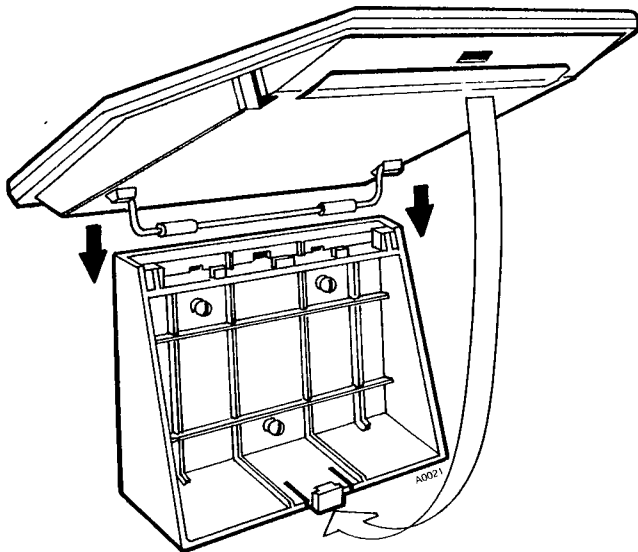

Figure 2 SECURING TELEPHONE IN BRACKET, EK-616
- *Place telephone stand in bracket ( Figure 2 ).*